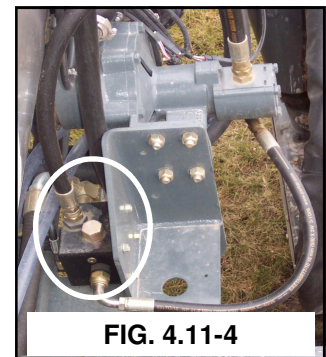

FIG. 4.11-4
**RAVEN SPRAY SYSTEMS CONSOLE**— The spray system is controlled by the Raven SCS 4600 (fig. 4.11-3) and the Pulse Width Modulated Valve (fig. 4.11-4). The system receives data and automatically makes adjustments based on the target rate of application set by the operator.